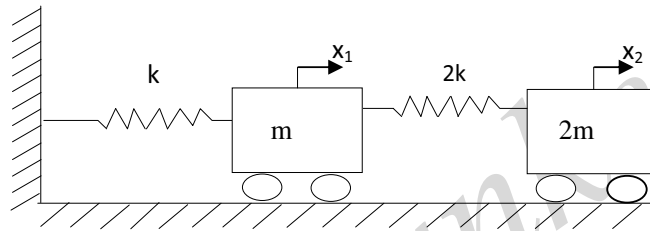

Fig. 3
7. Use modal analysis to determine the steady state response of the system shown in Fig. 3 when the mass  $2m$  is subjected to a force of  $F_0 \sin 1.5\sqrt{k} t$ . [16]